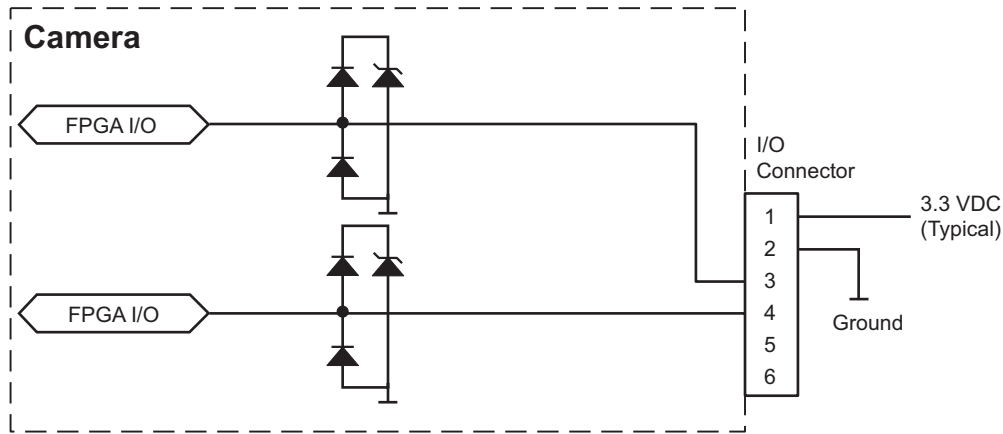

Fig. 21: GPIO Line Schematic (Simplified)
- are unbuffered I/O lines (directly connected to the FPGA, see Figure 21)